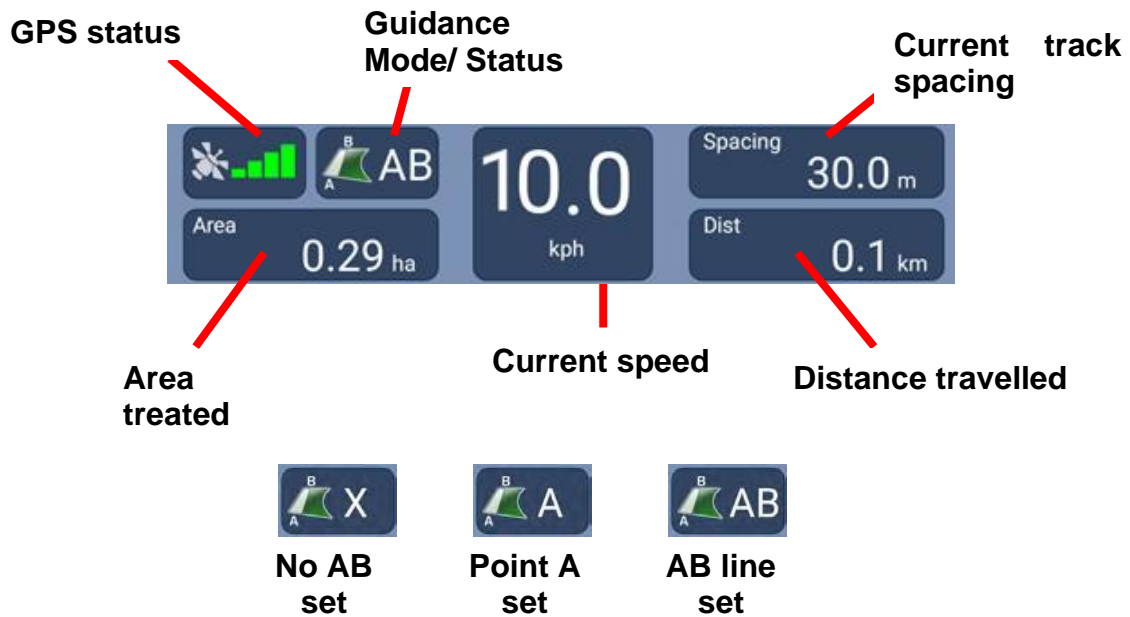

Fig. 12 – Job screen overview
The job screen (**fig. 12**) is what the driver will see during a spray operation.
2. Touch the guidance mode/ status button – see **fig.12**. A prompt will appear on screen to select the wind direction. The icon alongside the guidance mode/ status button will change to A.
After setting the B point at the end of the track, the display will change to track guidance mode, with a series of parallel lines to the set A-B line – see **fig. 12**.
The display will show the track guidance mode as shown in **fig. 12**. This shows the parallel tracks ahead of the vehicle in a forward-looking 3D horizon. The display shows the following information: